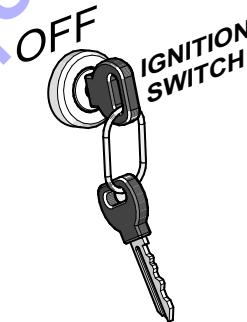

Figure 57. Ignition Switch (OFF)
1. Place the ignition switch key (Figure 57) on the **OFF** position.